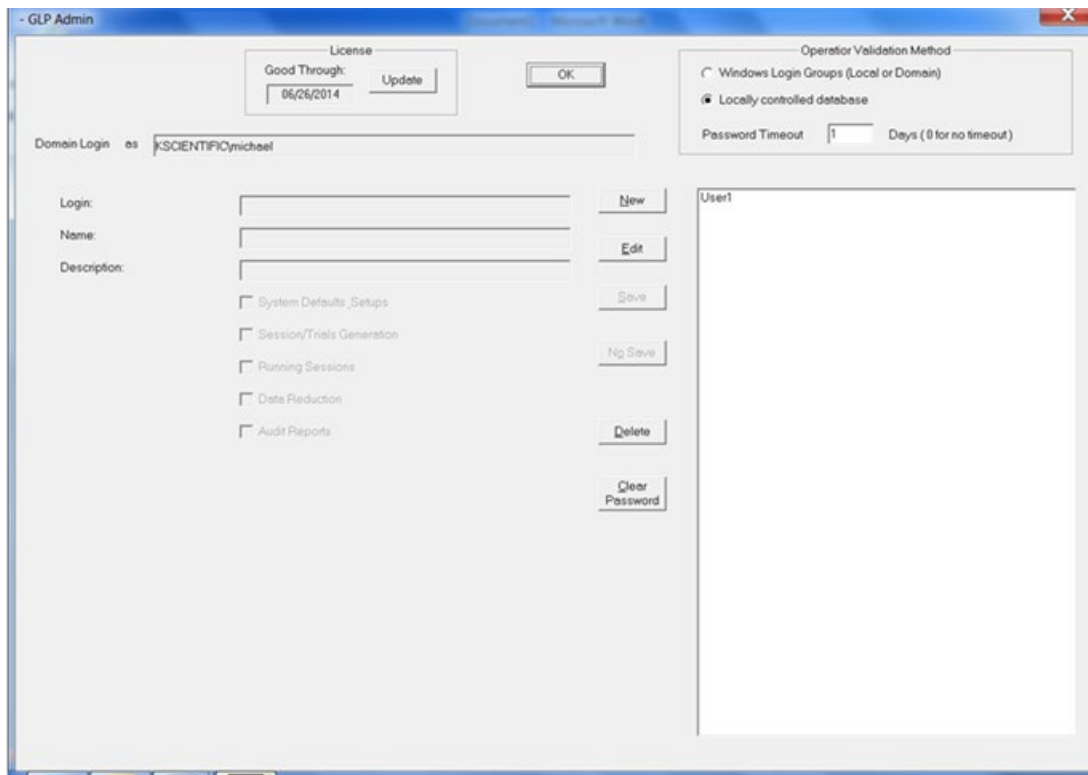

Figure 25 Access Controls Password Window
1. Login as Admin. You do not need a password if you are a Windows Administrator. Open the StartleMonitor software, access the **File** menu and select **Access Admin**. The following screen (Figure 25) will appear: